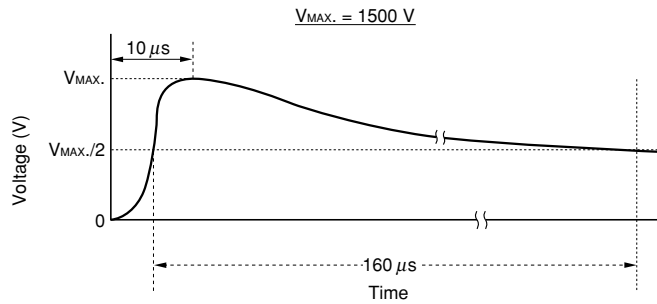

Figure 3.8 Surge Voltage Waveform
The UC2 series relay can withstand even if the surge voltage shown in Figure 3.8 is applied (1) between opening contacts, (2) between coil and contacts, or (3) between adjacent contacts.